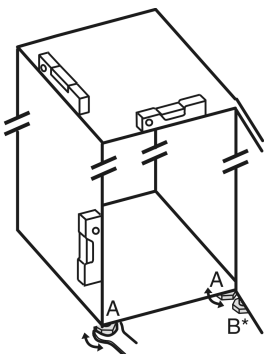

Fig. 24
- ▶ Unscrew the adjustable feet Fig. 24 (A) using the enclosed open-end spanner and a spirit level until the appliance is firmly aligned and level.
- ▶ Unscrew the adjustable foot Fig. 24 (B) on the swap bearing block with the enclosed open-end spanner until it rests on the floor.
- ▶ Turn the adjustable foot Fig. 24 (B) 90° further.